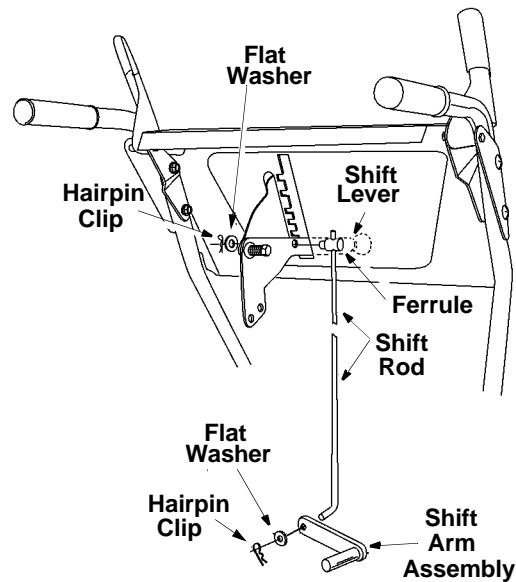

Figure 12
**Models 614, 644, 664 and 6A4:** Rotate the shift arm assembly counter clockwise as far as it will go. Insert the shift rod through the shift arm assembly. When installed, the shift arm assembly should point left. Secure with flat washer and hairpin clip. See Figure 12.
**Models 614, 644, 664, and 6A4:** Thread the ferrule onto the shift rod, up or down the shift rod and align with the far hole on the narrow side of the shift lever assembly behind the handle panel. See Figure 12.